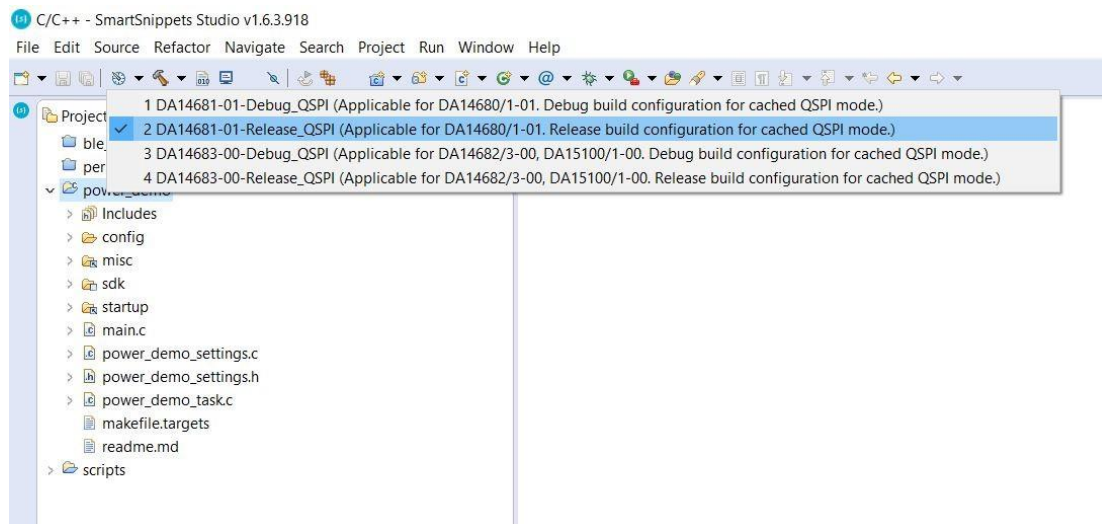

Figure 28: Selecting the build mode to be programmed
1. Select the project folder, click on the Build Configuration icon as shown in Figure 28 and select the build configuration that you want to program into the QSPI Flash memory.